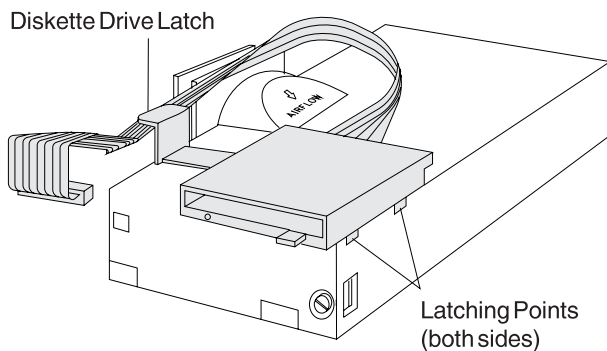

Figure 1-8. Diskette Drive Remove and Replace
- 2 Lift the diskette drive latch on the left side of the power supply and slide the drive to the right until it disengages. See Figure 1-8.